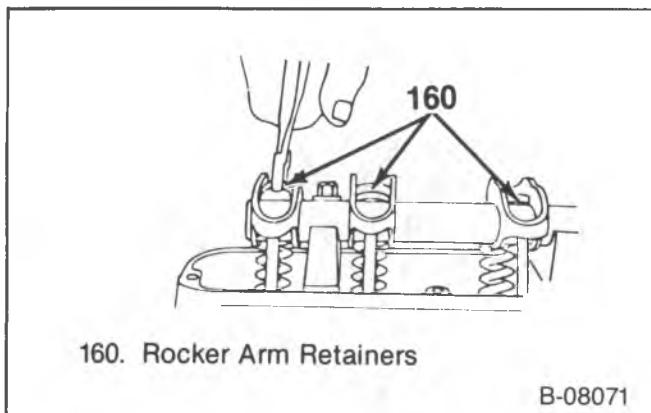

Figure 19—Removing the Rocker Arm Retainers
Disassemble (Figure 19)
1. Rocker arm retainers (160).
- Pull the rocker arm retainers out with pliers (figure 19).